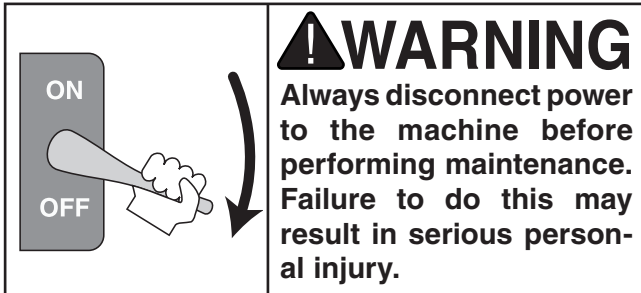

Figure 29. Dirty filter mark example.
7. Multiply the reading from **Step 6** times 2 (2x) and mark with the supplied red arrow (see **Figure 29**). This is the dirty filter indicator mark. When the fluid reaches the red arrow, install new filters.